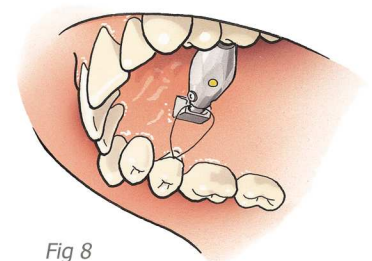

Fig 8
- 6 The module is preferably fixed bilaterally to the bicuspids with a fine titanium ligature for safety reasons. Small holes are for that purpose provided in the distraction screws (Fig 8).